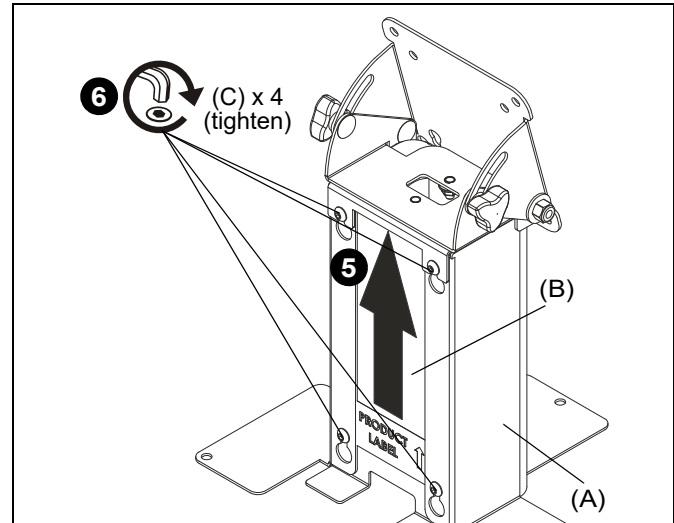

Figure 3
5. Slide column cover (B) up until screws (C) are properly positioned into keyholes. (See Figure 3)
6. Tighten all four screws (C) to secure column cover (B) to column (A). (See Figure 3)